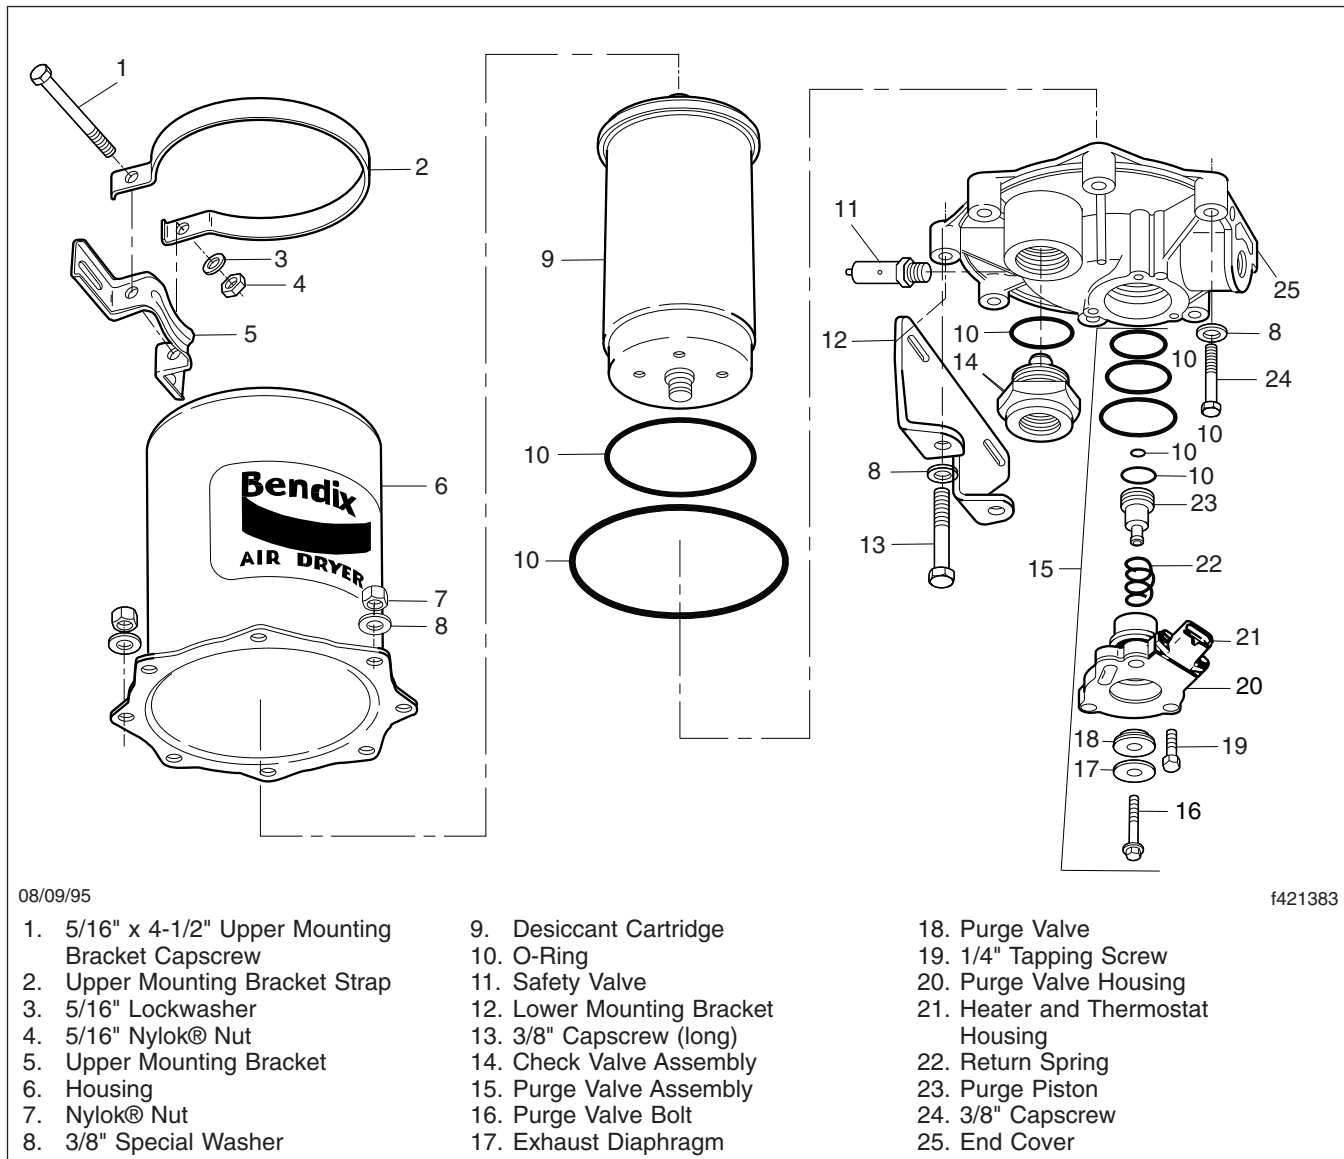

Fig. 1, AD-9 Air Dryer (exploded view)
8. Place the air dryer on a bench and remove the remaining 6 capscrews, 12 washers, 6 Nylok®nuts, and the air dryer housing. See **Fig. 1**. Discard the Nylok nuts. Remove the end-cover-to-housing O-ring.